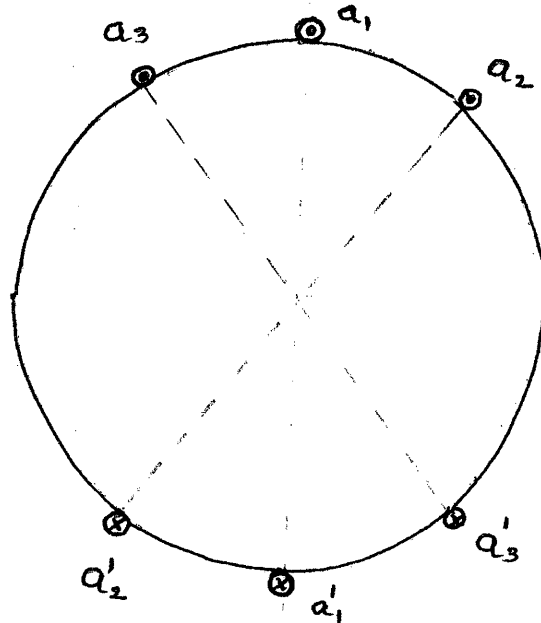

Fig. 2
Q.3. b) For the diagram shown in Fig. 2, draw the resultant axis of windings. Prove the same by considering appropriate vectors of individual coils.